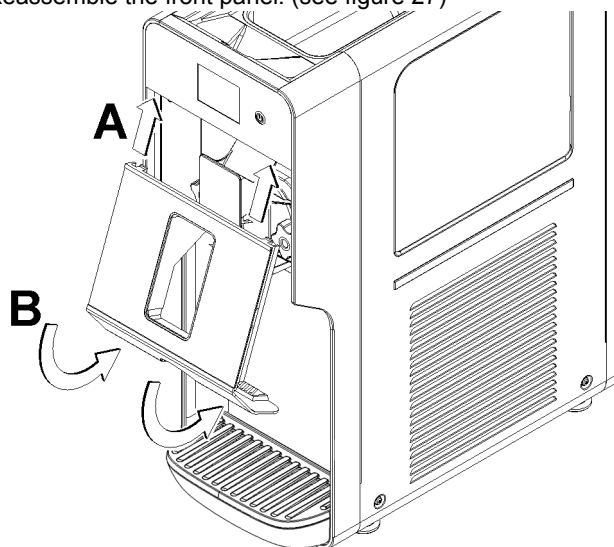

figure 27
- 5 Reassemble the front panel. (see figure 27)